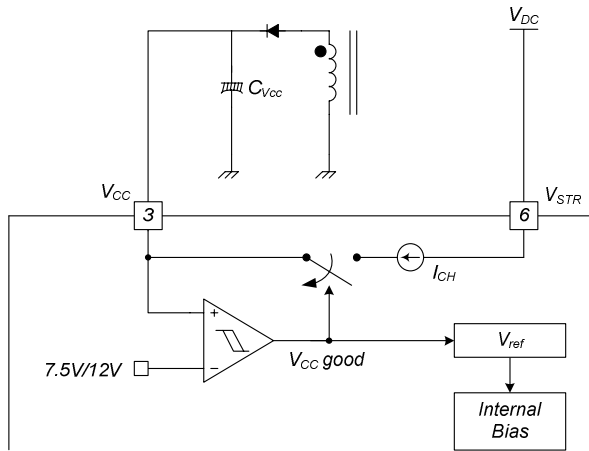

Figure 17. Startup Block
1. Startup: At startup, an internal high-voltage current source supplies the internal bias and charges the external capacitor (C_{VCC}) connected to the V_{CC} pin, as illustrated in Figure 17. When V_{CC} reaches 12V, the FSGM0565R begins switching and the internal high-voltage current source is disabled. The FSGM0565R continues normal switching operation and the power is supplied from the auxiliary transformer winding unless V_{CC} goes below the stop voltage of 7.5V.